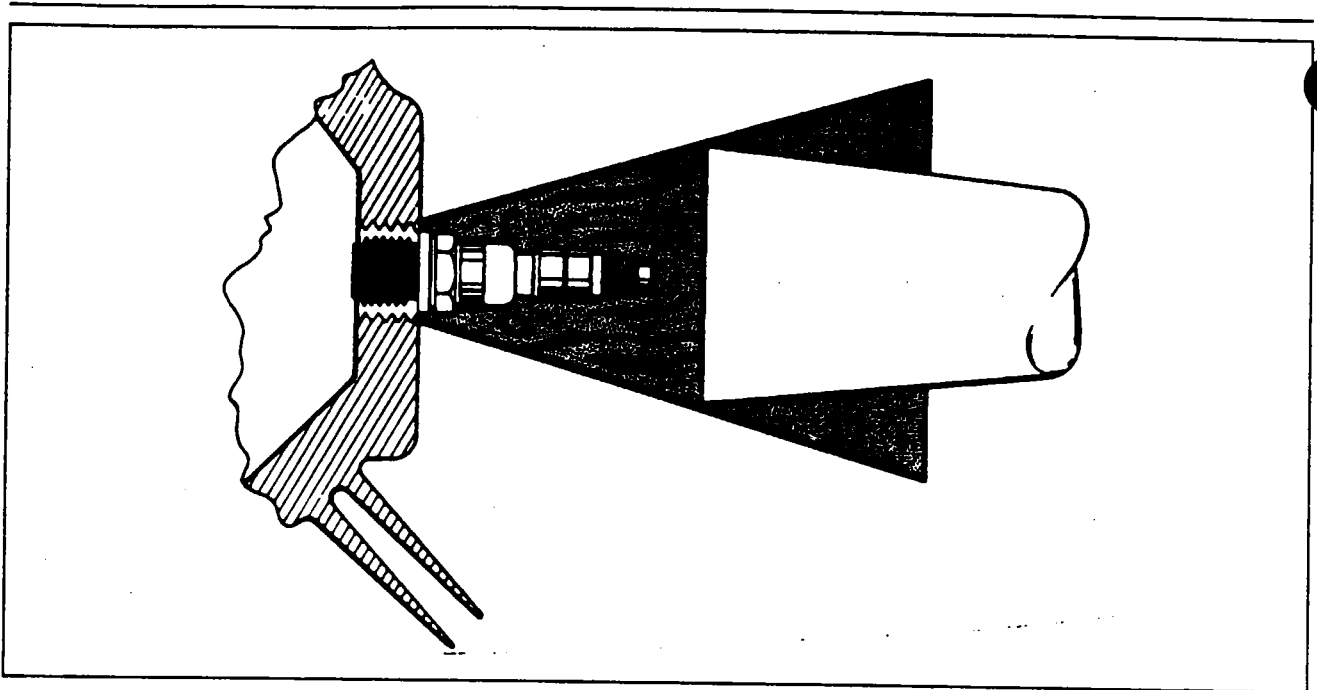

Figure 8-34. Removing Frozen Spark Plug
- d. Removal of seized spark plugs in the cylinder may be accomplished by application of liquid carbon dioxide by a Conical metal funnel adapter with a hole at the apex just large enough to accommodate the funnel of a CO₂ bottle. (Refer to Figure 8-34.) When a seized spark plug cannot be removed by normal means, the funnel adapter is placed over and around the spark plug. Place the funnel of the CO₂ bottle inside the funnel adapter and release the carbon dioxide to chill and contract the spark plug. Break the spark plug loose with a wrench. A warm cylinder head at the time the carbon dioxide is applied will aid in the removal of an excessively seized plug.